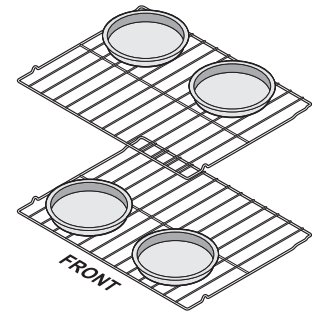

Figure 3: Pan spacing
- When baking using two oven racks, position cookware as shown in Figure 3.